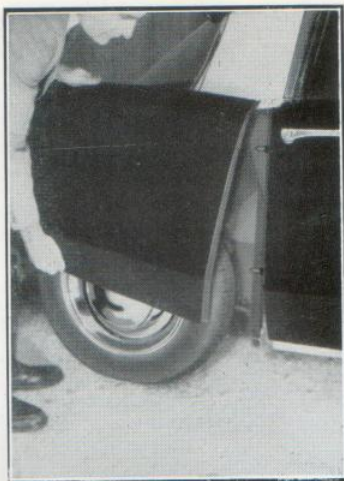

Figure 14
- If a rear wheel is to be changed, remove the fender; unscrew the nut (fig. 13) and pull the fender towards the rear (fig. 14). Then carry out the following operations in the order given;
Replace the hubcap noting the position of the hole for the valve. If working on a rear wheel, refit the fender; first engage the dowels (fig. 14) in their housings. **Push the fender as far as possible towards the front** then screw up the nut (fig. 13).